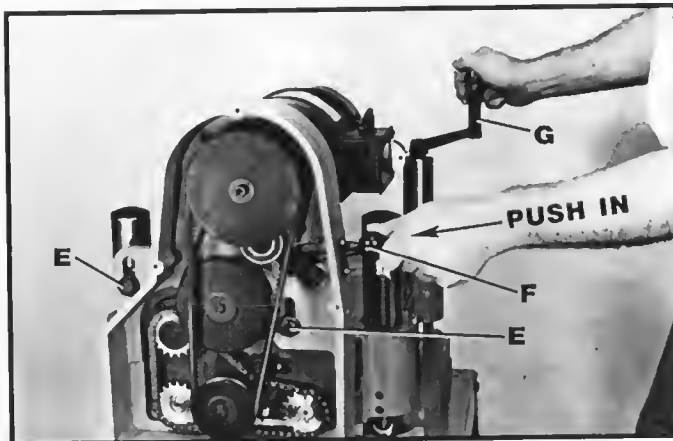
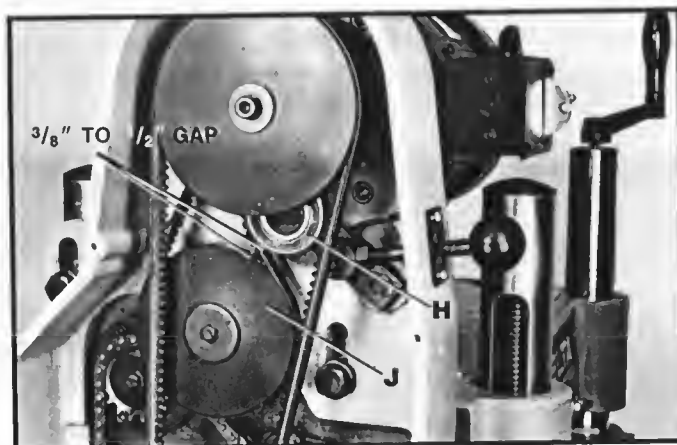

Fig. 13A
Fig. 13B
2. Loosen two bolts (E) Fig. 13A, that fasten the belt guard to the machine, lift up the feed roll engagement lever (F), and simultaneously push in firmly on the feed roll engagement lever (F) and lower the cutterhead by turning handle (G) counterclockwise until there is $\frac{3}{8}$ " to $\frac{1}{2}$ " space between bearing (H) Fig. 13B, and gear box drive pulley (J). Then tighten two bolts (E), Fig. 13A.